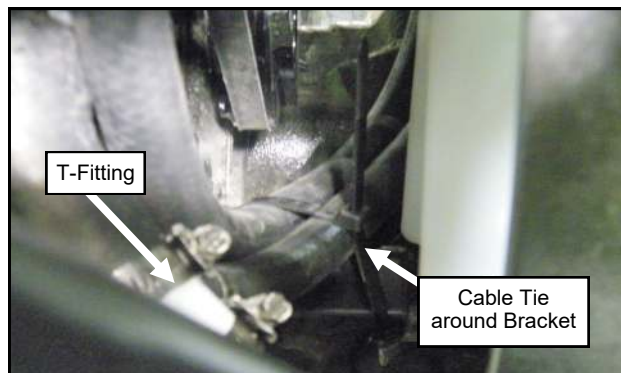

Fig. 18.10 (Secure Hoses)
18.10 Secure the hoses below the T-fitting with a long (16") cable tie to the bracket on the right side of the engine, behind the cooling fan. See Figure 18.10.